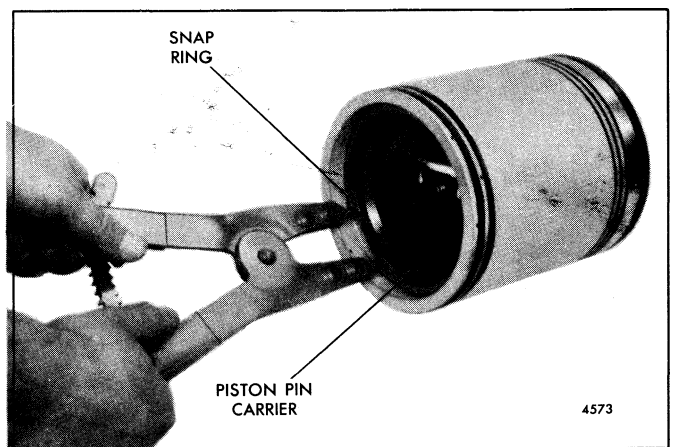

Fig. 4 - Removing Piston Pin Carrier From Piston
1. Remove the snap ring from the piston body and withdraw the piston pin carrier and thrust plate (Fig. 4).